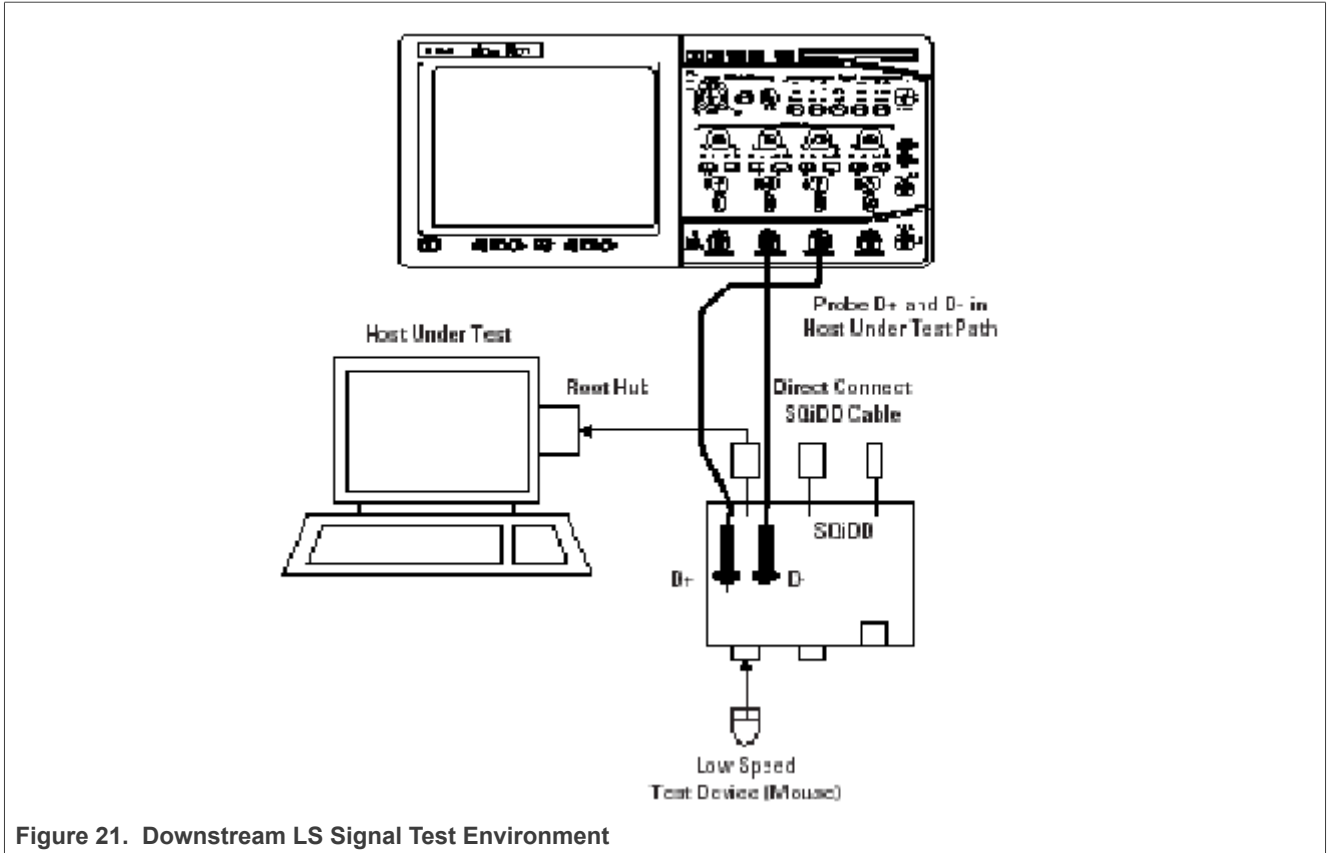

Figure 21. Downstream LS Signal Test Environment
2. Connect the equipment and test fixture as shown in Figure 21.